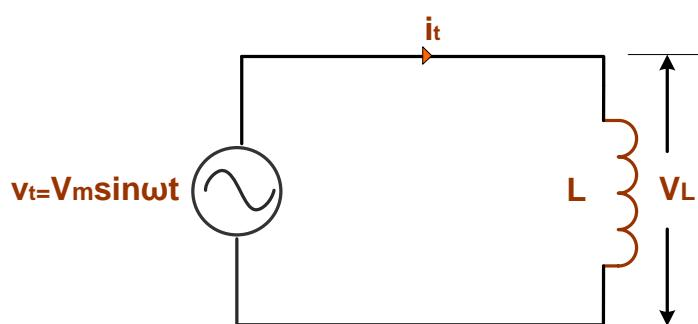

Figure 2.16 Pure Inductor Connected to AC Supply
- The Fig. 2.16 an AC circuit consisting of a pure Inductor to which an alternating voltage $v_t = V_m \sin \omega t$ is applied.
- As shown in the Fig. 2.16 voltage source